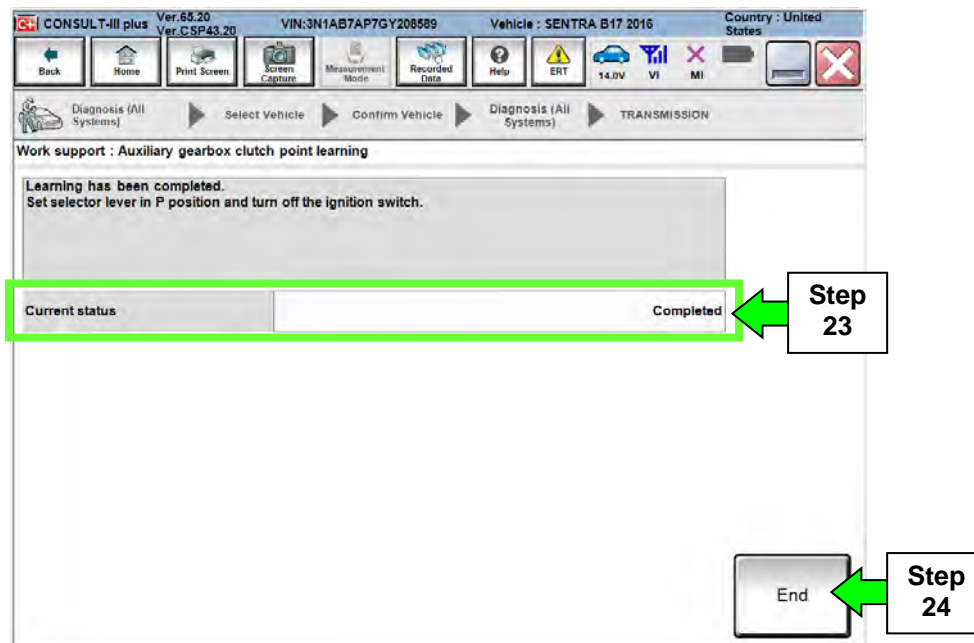

Figure 16Y
23. Continue to depress the brake pedal until the Current status shows “Completed” as shown in Figure 16Y.